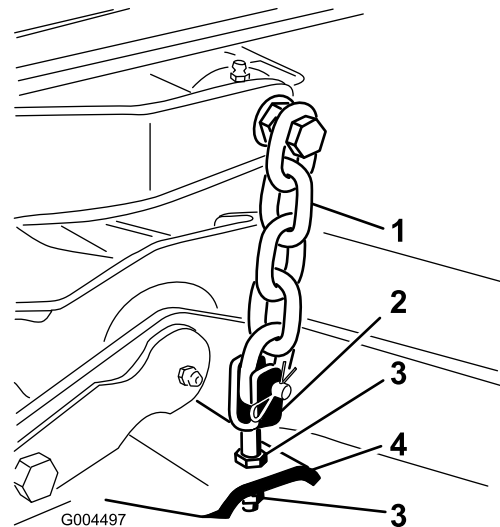

Figure 75
7. Adjust the jam nuts securing the rear deck yokes/chains to raise the rear of the deck so that the blade pitch is set to 5/16 inch (8 mm) (Figure 75).